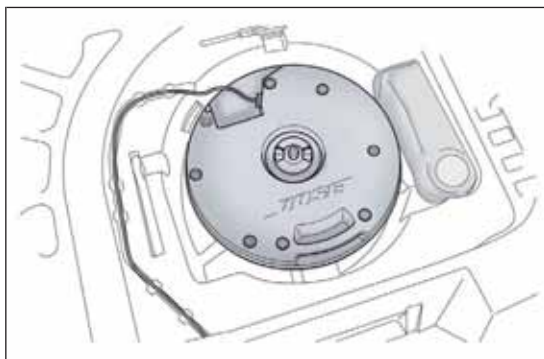

fig. 124
- ☐ take the "Fix&Go Automatic Kit" located on the left side of the luggage compartment ( fig. 124);